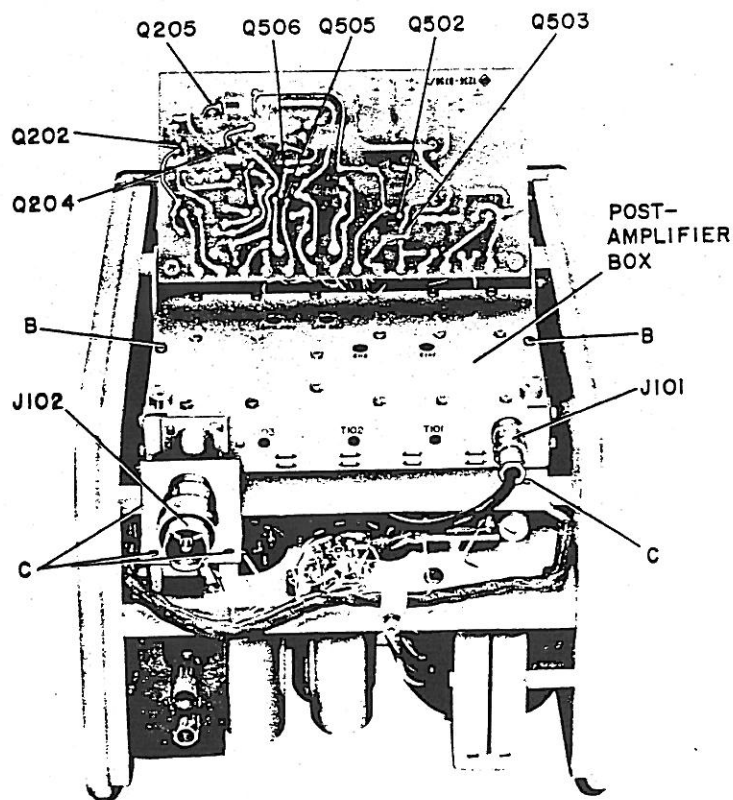

Figure 5-4. Rear view of 1236 with dust cover removed and the power-supply etched-board pivoted to a vertical position.
- a. Disconnect the attenuator from the postamplifier input, J101, Figure 5-4 (BNC connector at the rear of the postamplifier box). Connect the signal generator to the postamplifier input using the GR874/BNC Adaptor. Set the generator frequency to 30 MHz.
- a. Swing the power-supply etched board to its vertical position. Connect the sweep generator to J101 (see Figure 5-4) at the rear of the postamplifier box. Set the 1236 METER SCALE switch to NORMAL. Adjust the frequency to 29 MHz and increase the generator output until an upscale reading on the amplifier is obtained. Adjust T103 for a maximum meter deflection (use slotted alignment tool\*).
- d. Align the response with T101, T102, C107, and C113, (see Figure 5-4) if necessary. C107 and C113 determine the Q's of the two tuned circuits and the gain of both stages. T101 and C107 affect the res-
a. Remove the oscilloscope connection and set the generator frequency to 30 MHz. Turn the amplifier GAIN control fully counterclockwise and set the generator output to zero. Set the amplifier meter to zero, using the ZERO ADJ control (R120, Figure 5-4).
b. Increase the generator output to obtain a full-scale reading on the amplifier. Reduce the output by 10 dB. Set the LIN ADJ control (R122, Figure 5-4) for a 0-dB meter reading on the amplifier. Increase the signal level by 10 dB and readjust the generator output for a full-scale reading on the amplifier. Observe the 0-dB position again and repeat the LIN ADJ adjustment until the 0-dB reading indicates no visible error.
a. Connect the signal generator to the post-amplifier input (J101, Figure 5-4). Set the amplifier METER SCALE switch to NORMAL. Set the generator frequency to 30 MHz and increase the generator output
a. Connect the attenuator cable to the BNC jack (J101, Figure 5-4) at the rear of the postamplifier box. Connect the signal generator to the 50- $\Omega$  side of the 50  $\Omega$  - 400  $\Omega$  matching pad. Connect the 400- $\Omega$  side of the pad to the input of the 1236.